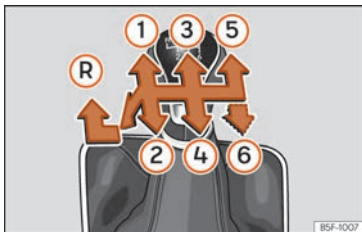

Fig. 161 Gear shift pattern of a 5 or 6-speed manual gearbox.
The position of the gears is indicated on the gearbox lever »» Fig. 161.
- With the gearbox lever in neutral, push it downwards, move it to the left as far as it will go and then forwards to select reverse »» Fig. 161 (R).